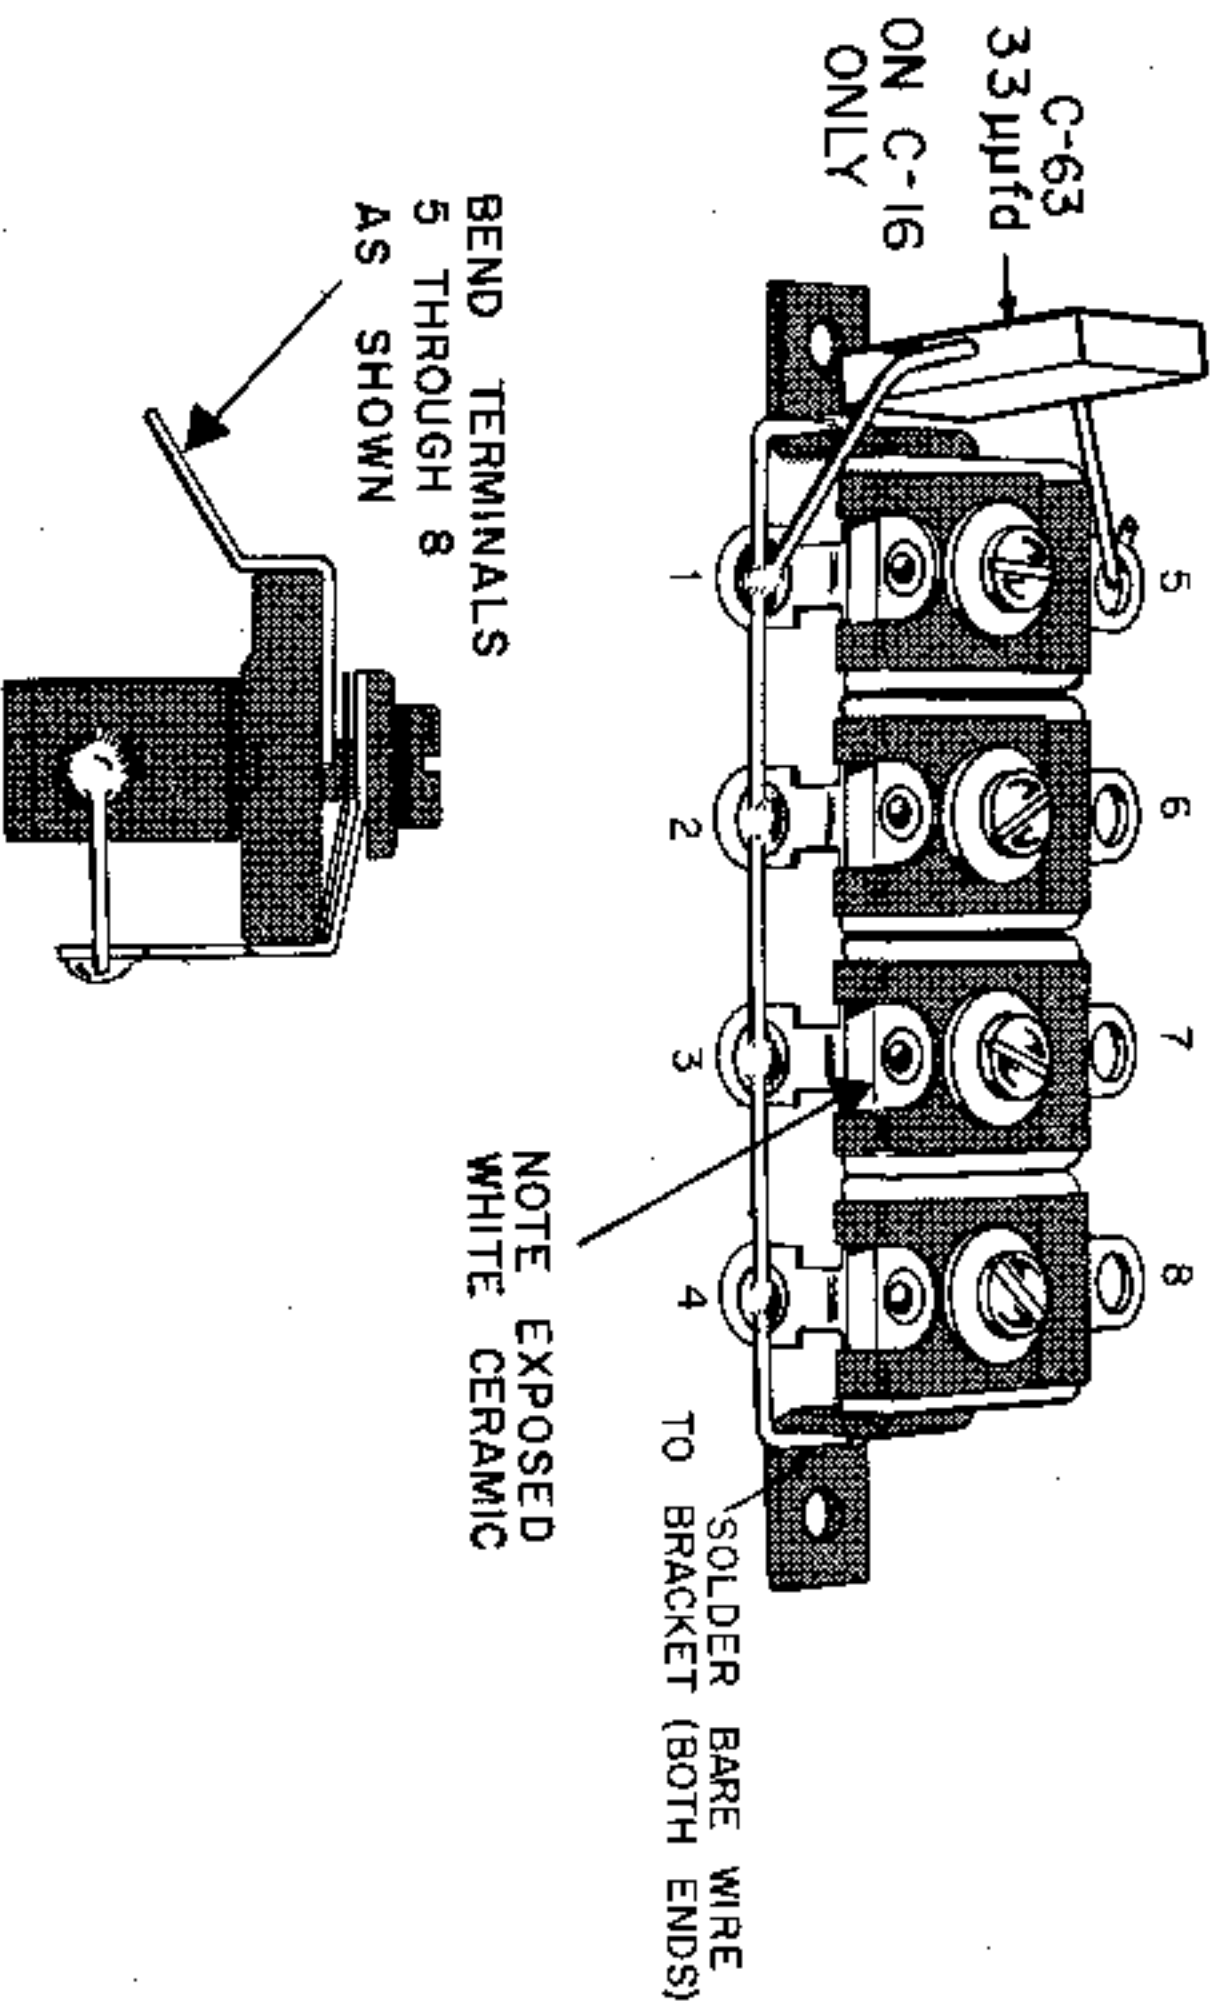

FIGURE 14. PREPARING THE TRIMMER STRIPS
SEE FIGURE 14.
Two, identical trimmer strips are supplied. Each consists of four 3-30 μfd trimmers mounted on a bracket. Notice that terminals 1, 2, 3 and 4 on one side of each trimmer are just below the exposed white ceramic, as shown in Figure 14. These terminals must be properly identified and wired or the receiver will not work.
- Position one of the trimmers exactly as shown in Figure 14. This trimmer will be used as C-16.
- Position the other trimmer strip, C-12, exactly as shown in Figure 14.